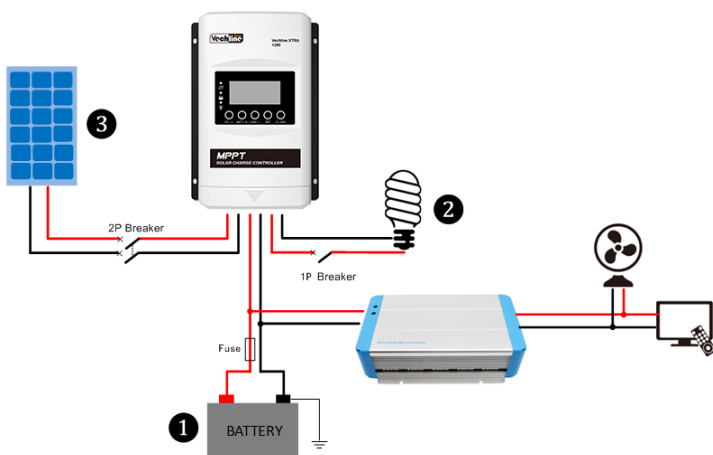

Figure 2-2 Schematic of wiring
**Step 2:** Connect the system in the order of ① battery → ② load → ③ PV array in accordance with Figure 2-2, "Schematic Wiring Diagram" and disconnect the system in the reverse order ③ ② ①.